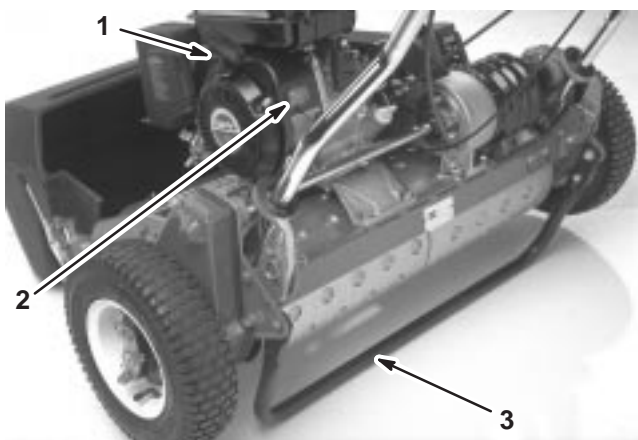

Figure 24
On/Off Switch (Fig. 24)
Recoil Starter (Fig. 24)
Kick Stand (Fig. 24)
3. Move the On/Off switch (Fig. 24) to the On position.